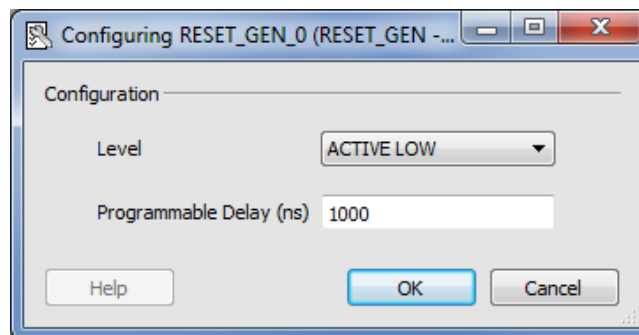

Figure 19. RESET_GEN Configuration
7. Open the **Reset Generator** configurator by double-clicking **RESET_GEN_0** in the SmartDesign canvas. Ensure that the following information, as shown in Figure 19, is set in the **RESET_GEN_0** configurator and click **OK**: